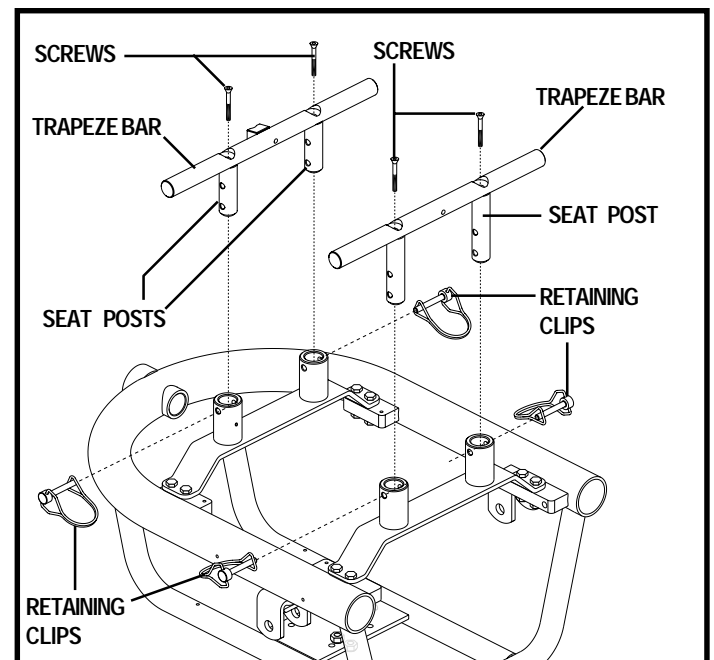

Figure 14. Trapeze Bar Location (Optional)
7. Loosen the screws that attach the trapeze bars to the seat posts. See figure 14.
8. Remove the retaining clips that secure the seat posts to the power base. See figure 14.